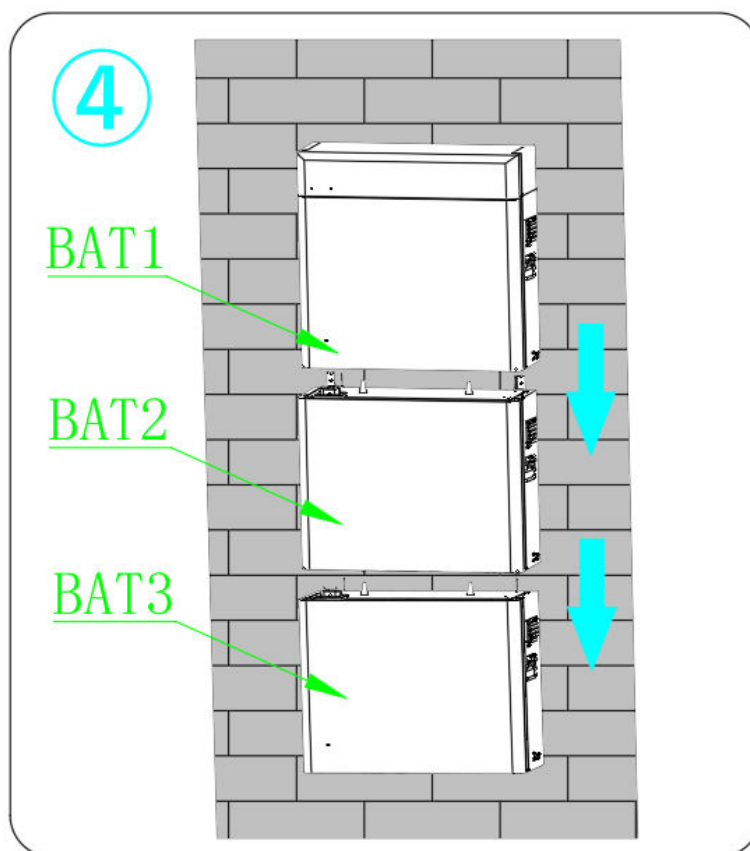

FIGURE 4.1: STEP4
- Step 4: First hang the battery pack "BAT3" on the wall, and then stack "BAT2" and "BAT1" in order. As shown in Figure 4.1.